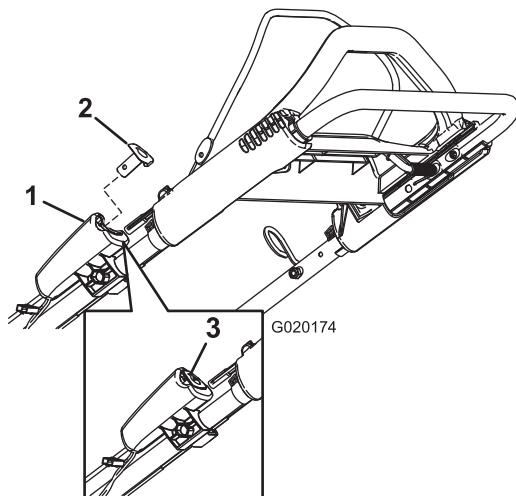
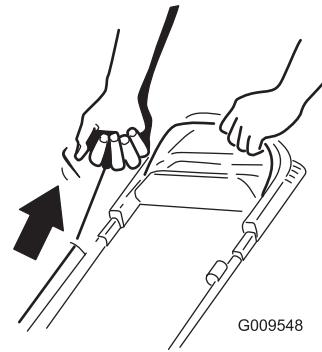

Figure 12
Figure 13
2. Push the electric-start button (Figure 12) (electric-start model only) or pull the recoil start handle (Figure 13).
Note: If the electric-start button if it has been removed, insert it in the electric starter; refer to Figure 12(electric-start model only).
Note: When you pull the recoil start handle, pull it lightly until you feel resistance, then pull it sharply (Figure 13). Allow the rope to return to the handle slowly.